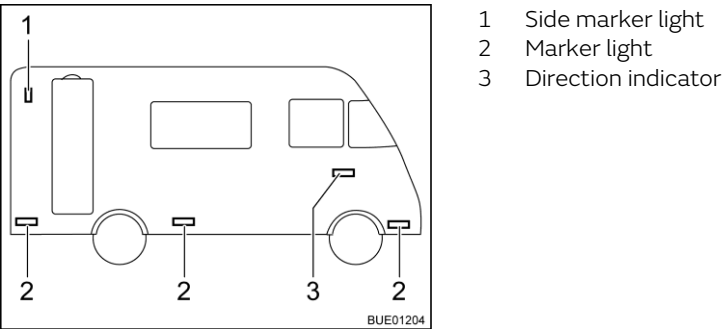

Fig. 218 Side lights
**Side marker light** The side marker light (Fig. 218,1) is fixed in the rear area at the top.
**Marker lights** The marker lights (Fig. 218,2) are fitted in the lower part of the vehicle.